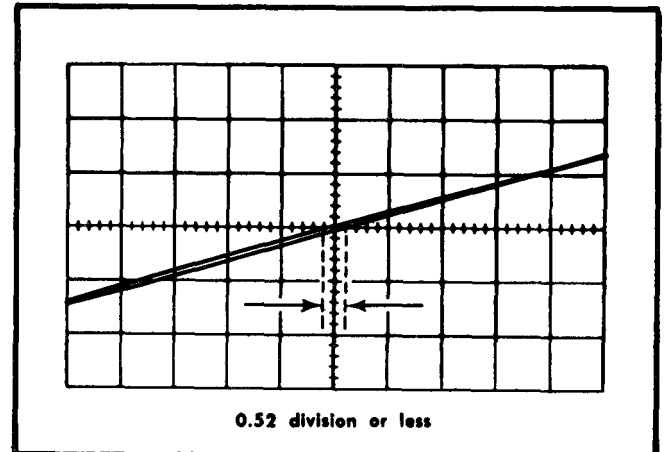

Fig. 6-52. Typical CRT display when checking X-Y phasing.
- CHECK-CRT display for an opening at the center horizontal line of 0.52 division or less (3° or less phase shift; see Fig. 6-52).